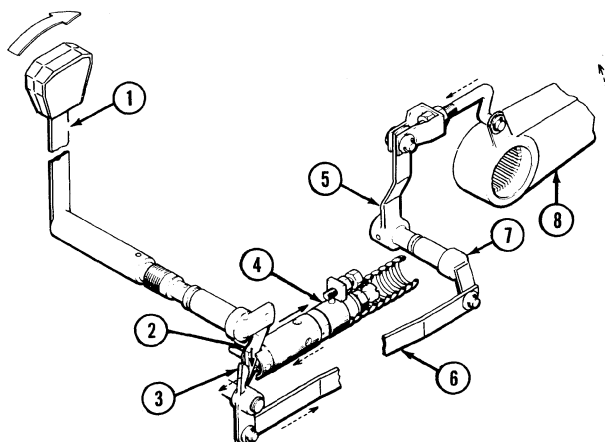

Figure 25
1. From Neutral to Lift Position (Figure 25)
2. From Lift Position to Neutral (Figure 25)
3. From Neutral to Lowering Position (Figure 25).